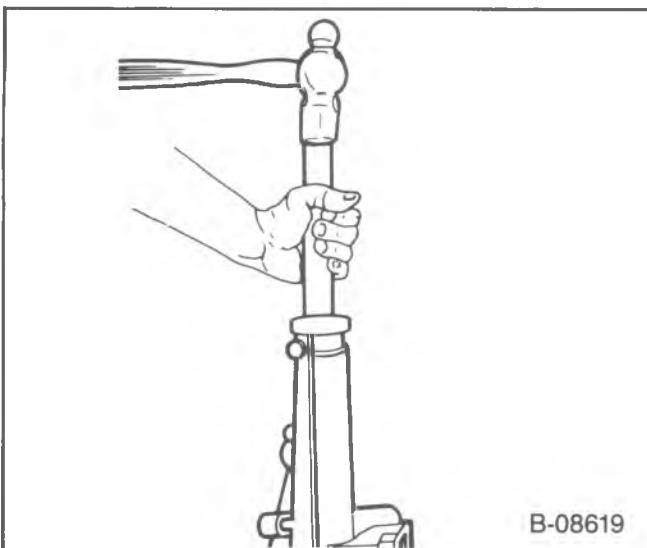
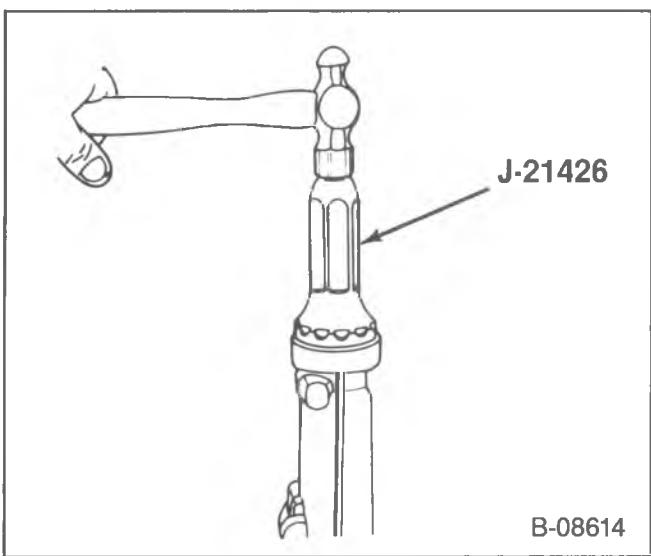

Figure 134—Installing the Extension Housing Bushing
Figure 135—Installing the Extension Housing Oil Seal
1. New bushing (680) if needed, using J-8092 and J-23062-14, (figure 134).
2. Locking compound on the outside of a new seal (681).
3. New seal (681) using J-21426, (figure 135).